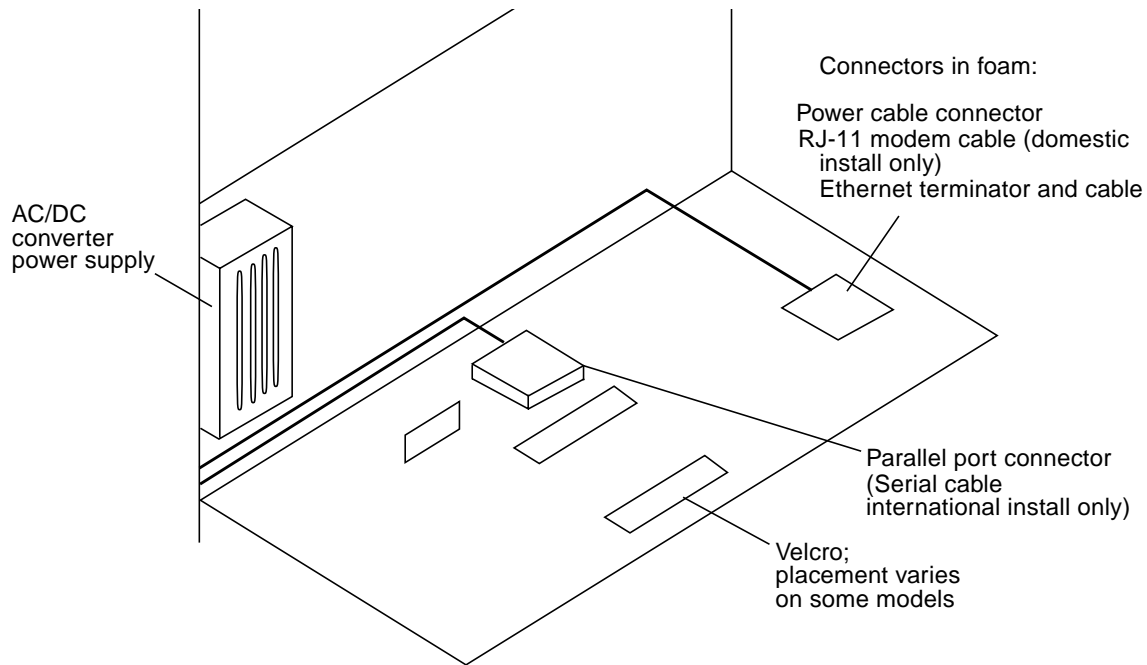

FIGURE 6-12 System Console Carrier Tray Connectors
- 3. The System Console is held in place by snap-type Velcro strips. Remove the System Console. See FIGURE 6-12.**
- 4. Place the System Console snugly against the Velcro strips. Make sure the System Console is attached to the Velcro. See FIGURE 6-12.**